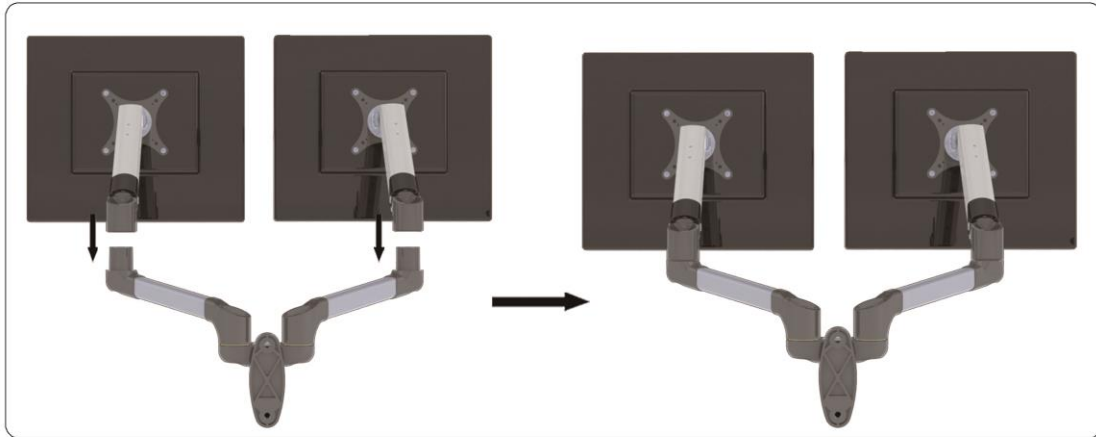

Figure 3-3
3. Install the Gas Spring Arms onto the Extension Arms (**See Figure 3-3**).